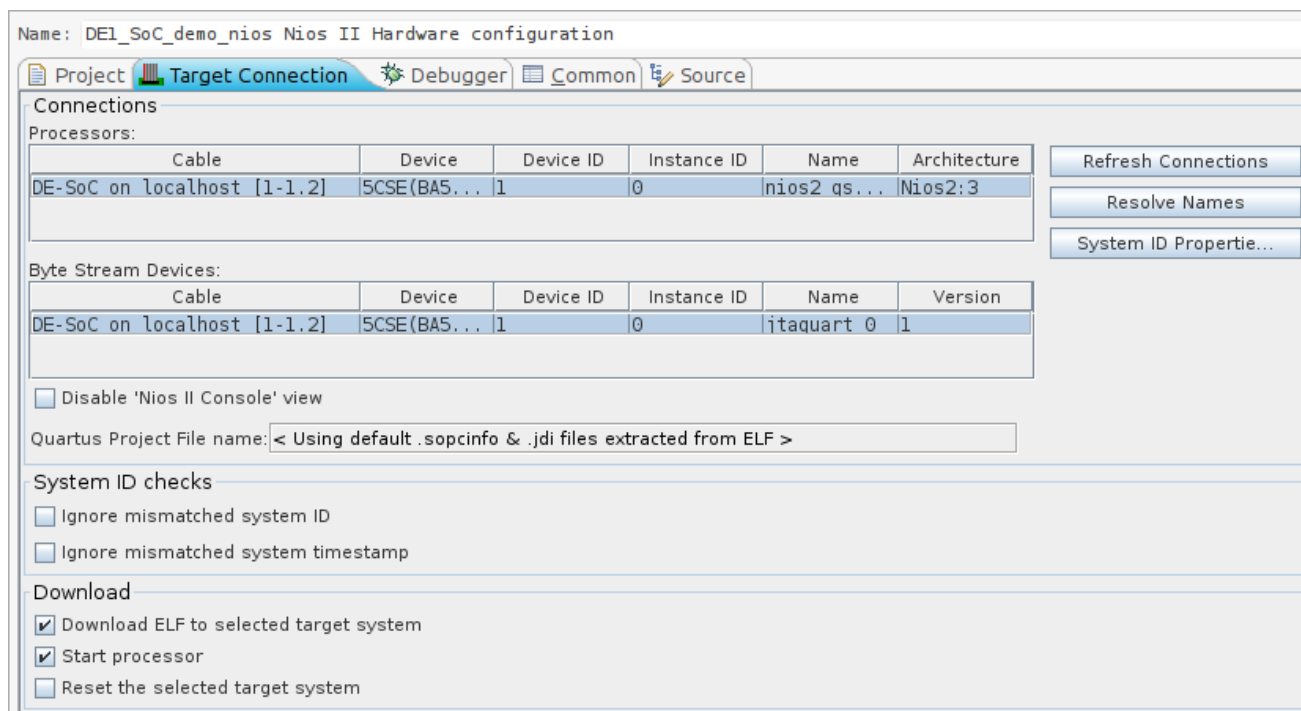

Figure 10-4. Nios II Target Connection Dialog
8. In some cases, it is possible that the program will not immediately run on the Nios II processor, and you will be prompted with a “Target Connection” dialog, as shown in Figure 10-4. If your Nios II CPU doesn’t appear in the list of available processors, then
- a. Click on the “Refresh Connections” button on the right of Figure 10-4.